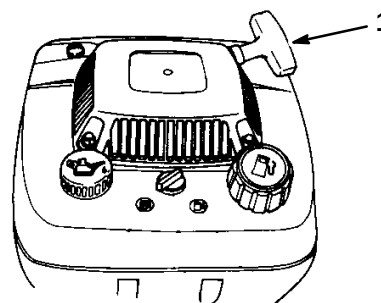

Figure 9
4. The starter handle is located on top of the engine (Fig. 9). Pull the starter handle lightly until resistance is felt, then pull it sharply. When engine starts, regulate throttle as desired. Allow the engine to warm up. During warm up, the equipment can be operated.